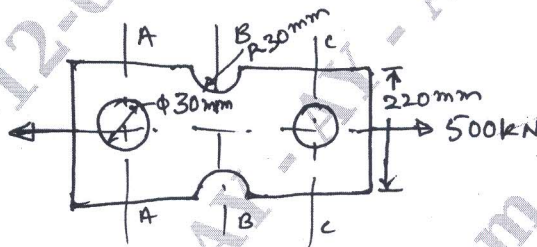

Fig.Q1(b)
- A bar of rectangular section as shown in Fig.Q1(b) is subjected to an axial pull of 500 kN. Calculate its thickness if the allowable stress in the bar material is 200 MPa.